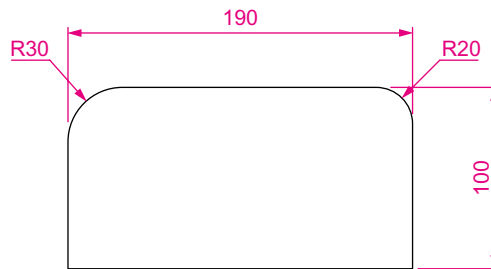

Fig. 6.6 Third example – **Radius** dimension
### Third example – Radius Dimension (Fig. 6.6)
4. Continue dimensioning the outline as shown in Fig. 6.6.